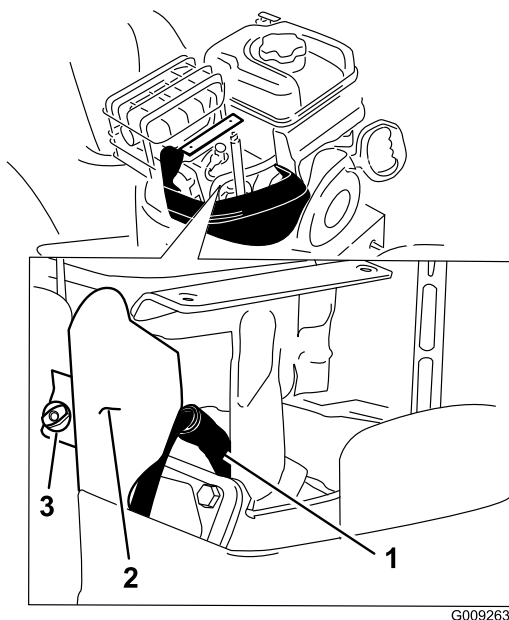

Figure 34
4. Remove the bracket thumb screw and the bracket (Figure 34).
5. Clean around the base of the spark plug (Figure 34).